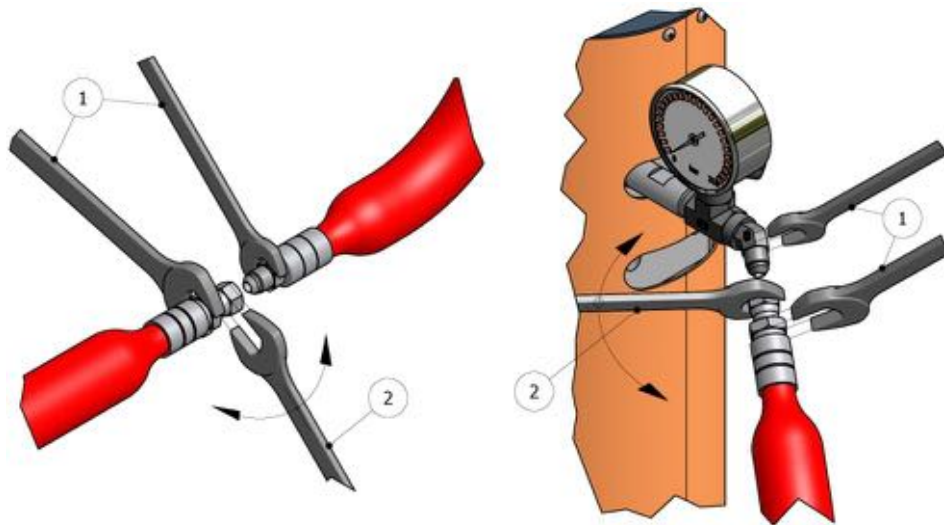

Figure 3. Method of union of the Hoses
WARNING! To join the hoses together or to connect them to the heaters or the gun, use two spanners to hold the parts to be joined (1) and a third spanner to tighten or loosen the connecting nut (2) as shown in the illustrations in Figure 3. The connections must be tightened to a torque of 20 Nm